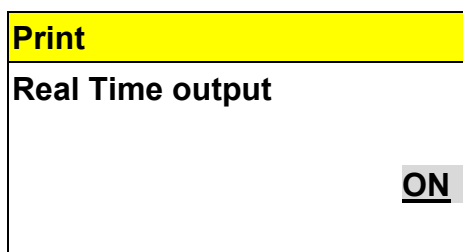

Figure 130
- B. Press  button to the editing mode as shown in Figure 130.